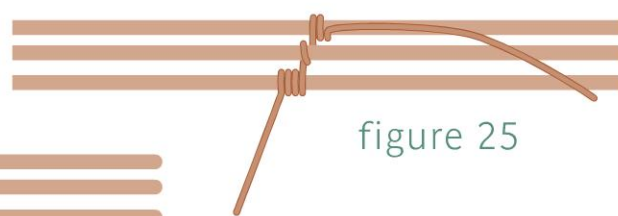

figure 25
- 5 Bring the weaving wire over Frame Wire 3; coil twice (Figure 25).